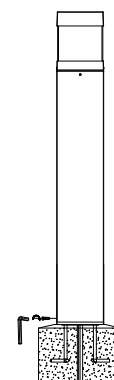

Fig 9
10. Put the fixture body back on and tighten the 3 screws **Fig. 9**.